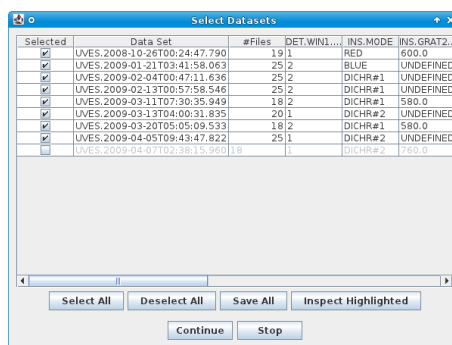

Figure 4.3: The “Select Datasets” pop-up window. On purpose the demo includes an incomplete (grey) DataSet.
- The Data Set Chooser actor will be highlighted next and will display a “Select Datasets” window (see Figure 4.3) that lists the DataSets along with the values of a selection of useful header keywords⁵. The first column consists of a set of tick boxes which allow the user to select the DataSets to be processed, and by default all complete DataSets are selected.